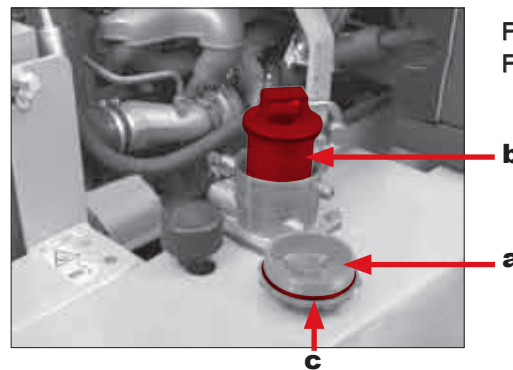

Fig. 94
1. Remove the filter insert Item b (Fig. 94).
Replace the filter element of the return filter Item b. (Fig. 94) during inspections or if the indicator light for the return filter Item 3 (Fig. 13, page 48) on the instrument panel is illuminated between inspection intervals.
Let the pressure from the hydraulic fluid reservoir escape by opening the hydraulic fluid filler neck cap Item 1 (Fig. 90) before you unscrew the cover of the filter housing Item a (Fig. 94). Otherwise, hydraulic fluid will be forced out of the filter housing and could get into the environment.
5. Remove the cover of the filter housing Item a (Fig. 94).
6. Remove the filter element item b (Fig. 94).
8. Check the gasket Item c (Fig. 94): Replace the gasket if it is damaged.
9. Screw on the cover of the filter housing Item a (Fig. 94):